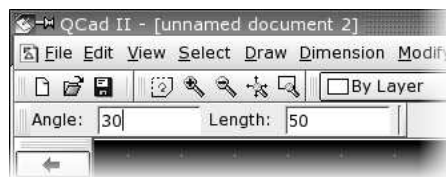

Figure 9: An optional toolbar may be shown for some tools.
- Option Toolbar. E.g. the dialog for drawing parallels requires the input of the distance from the original entity. It displays a text input box in the second toolbar at the top where the user can type the distance (see Figure 9).